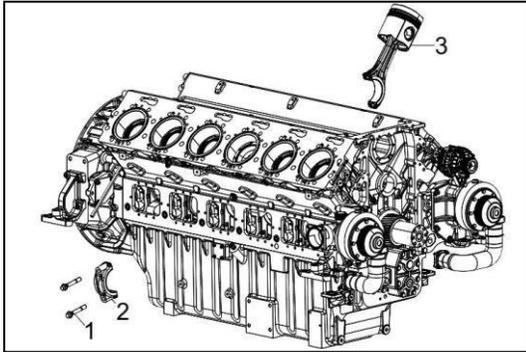

Figure 96
7. Crank the engine so that the upper fixing bolts of the cap of the connecting rod to be removed is in line with the inspection door opening. Loosen and remove the connecting rod bolts (Figure 96, 1).
8. Remove the connecting rod cap (Figure 96, 2) with the lower half bearing .